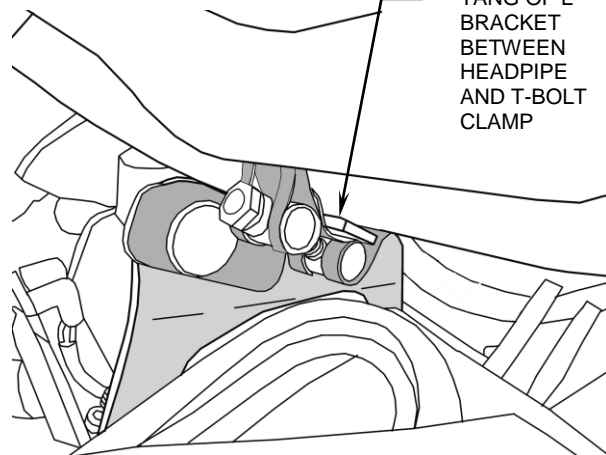

FIGURE 5.
17. Locate T-bolt clamp on underside of rear headpipe near rear headpipe support bracket which was previously installed, see Figure 5. Now slide this T-bolt clamp towards the outside of the motor. With the T-bolt clamp in this position locate the stock L-shaped support bracket with 5/16 inch stud. Slide tang of L-bracket into T-bolt clamp so that the tang locates between the headpipe and inside of clamp, see Figure 5. Now slide the bracket and T-bolt clamp together towards the headpipe support bracket and insert 5/16 Stud into slotted hole. Start 5/16 inch nut from rightside of motorcycle, **do not tighten** nut at this time.
19. Tighten the flange bolts on the rear headpipe to factory specifications. Next tighten the 5/16 inch nut on the rear headpipe support mount. Tighten the T-bolt clamp also at this time until it firmly seats on the tang of L-bracket and headpipe see Figure 5. Be sure the gap between the rear heatshield and front of the muffler is minimal and tighten the remaining hose clamps securing the heatshield.